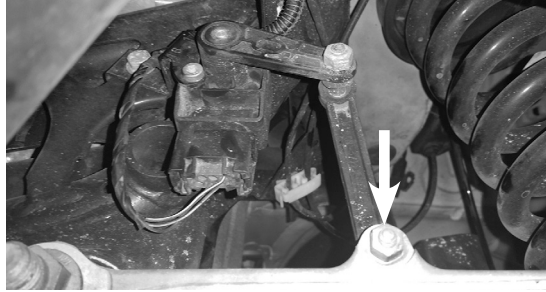

Fig. 5
3. Disconnect the headlight alignment linkage from the lower control arm (Fig. 5).